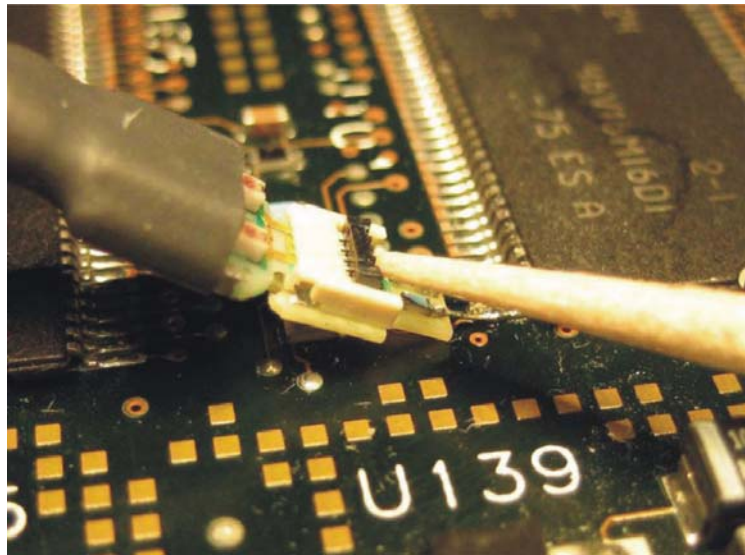
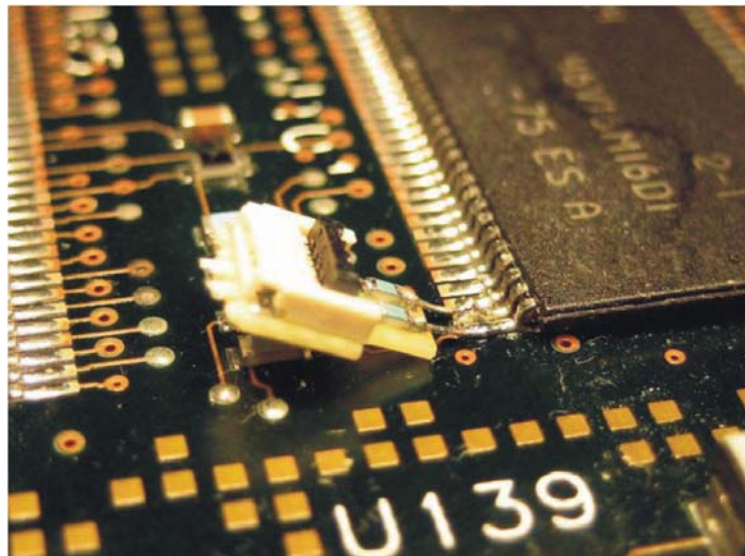

Figure 2-37 Using non-conductive tool to open the ZIF connector
Figure 2-38 ZIF Tip left behind in DUT with ZIF latch open
- 5 Remove ZIF probe head and leave ZIF tip behind for future connection. It is best to use a non-conductive, pointed object such as a tooth pick or plastic tool. Hold on the heat-shrink part of the probe head to support the ZIF tip while releasing the latch. Figure 2-37 shows a toothpick releasing the latch on the ZIF connector and Figure 2-38 shows the ZIF tip left behind in the DUT with the latch open, ready for future connections.